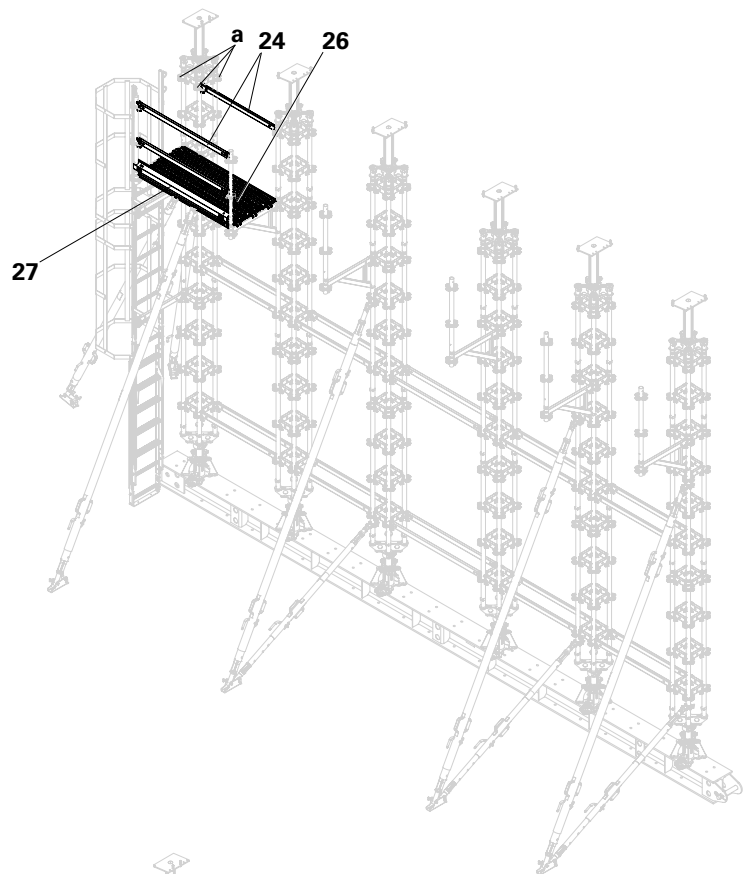
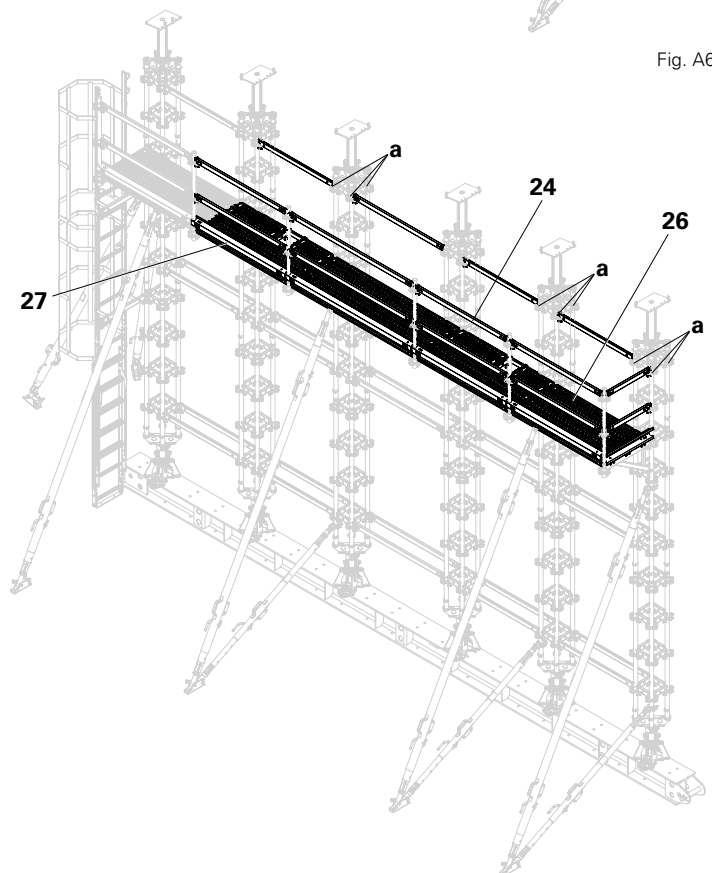

Fig. A6.14
Fig. A6.15
- The rosettes (a) of the Heavy-Duty Props HD that are on the level of the work platform and only Heavy-Duty Props HD that are held with at least one Push-Pull Prop RS. (Fig. A6.14 and Fig. A6.15)
2. Mount the horizontal ledgers (24) on the guardrail posts as anti-fall protection and attach the Toe Board Steel UPY (27) (Fig. A6.14)
3. Mount additional steel decks (26), horizontal ledgers (24) and toe boards until the work platform is completed. (Fig. A6.15)